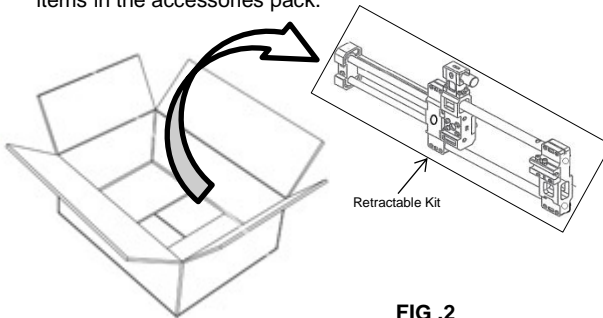

FIG .2
2. Remove the Retractable Kit and accessories pack from the packaging (See fig.2). Check all the items in the accessories pack.